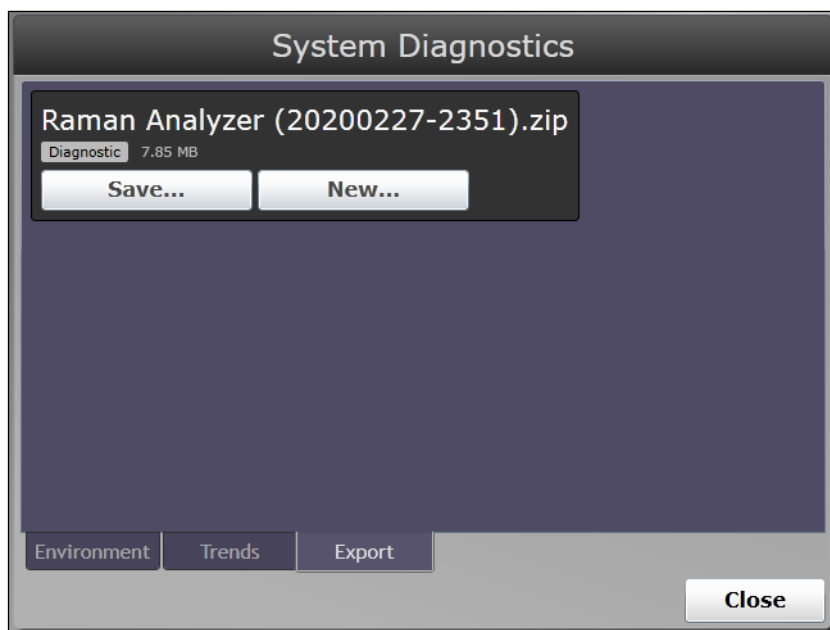
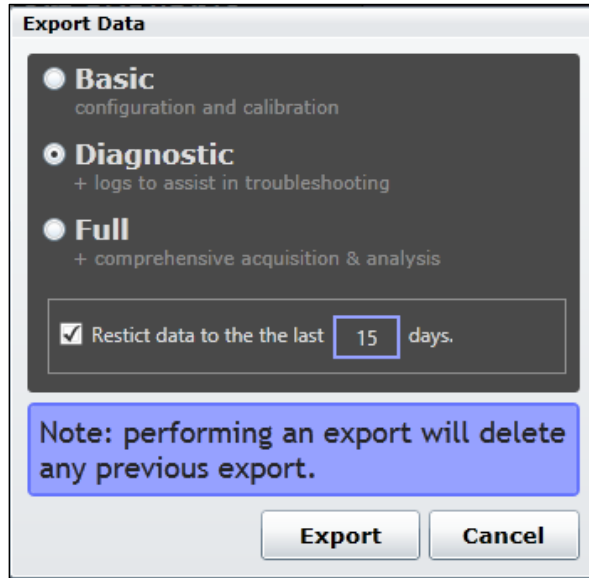

Figure 77. System diagnostics – export tab
Figure 79. System diagnostics – export data configuration options
From the System Diagnostics screen, click the **Export** tab (Figure 77) to export system information. When opened, the Export screen provides information on the existing data archive including the date of the previous export and the types of data that were included. This existing export can be Saved from the dialog, or a New export can be created.
1. From the System Diagnostics Export tab, click **New**, then select the Destination Folder (Figure 77) and touch the 'Select Folder' button. The Export Data screen appears (Figure 79).